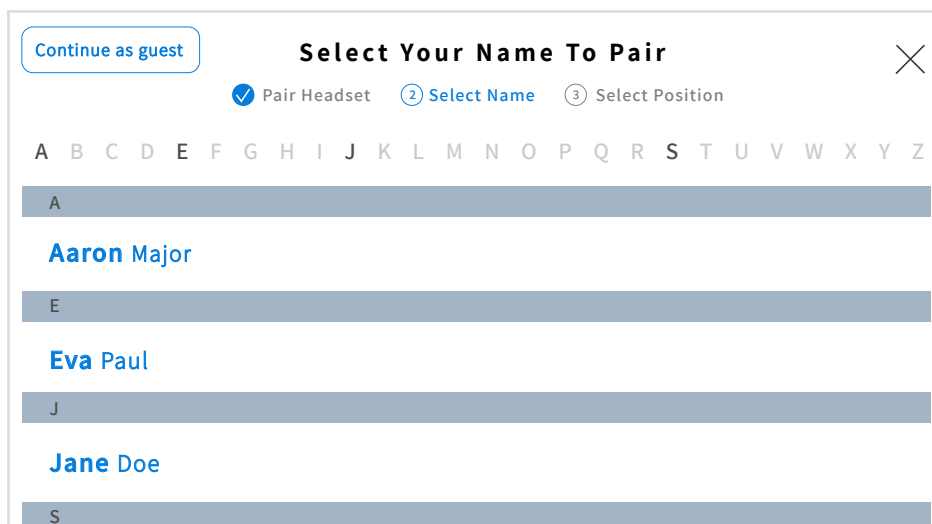

Fig. 1.22
- ** The person you are calling must have their name in the Crew Profile directory, see Fig. 1.22 for example. You cannot call an individual if they are using the headset as a guest. First names, last names, or full names can be used. For example, if there are two crew members with the same first name, then the headset will prompt you to use the last name of the person you wish to talk to. You must tap  on the headset to exit this state and return to your previous status.
If there is an existing Crew Profile, then the **Select Your Name To Pair** dialog opens (see Fig. 1.22). Tap on your name if it already exists (names are listed in alphabetical order, so you may have to scroll down the list to find it), or tap on the **Continue as guest** option in the upper left corner if you don't have a profile.